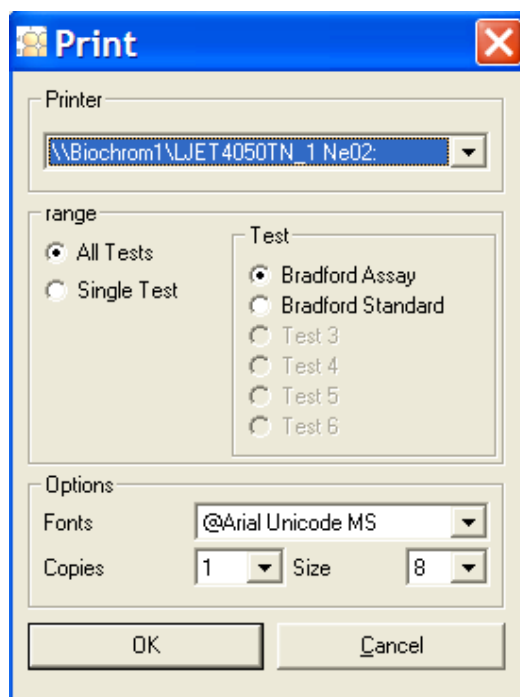

Figure 10-20: Print
1. From the Database menu, select **Print**. Print appears (Figure 10-20).